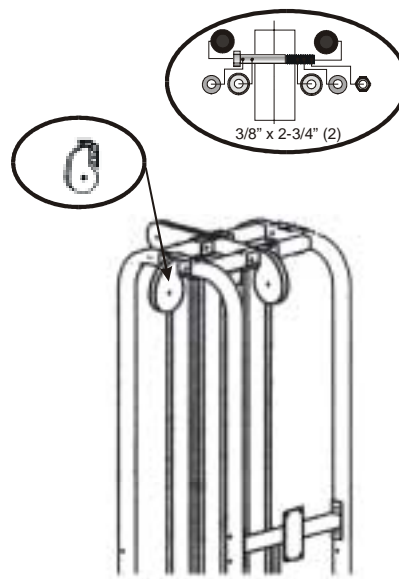
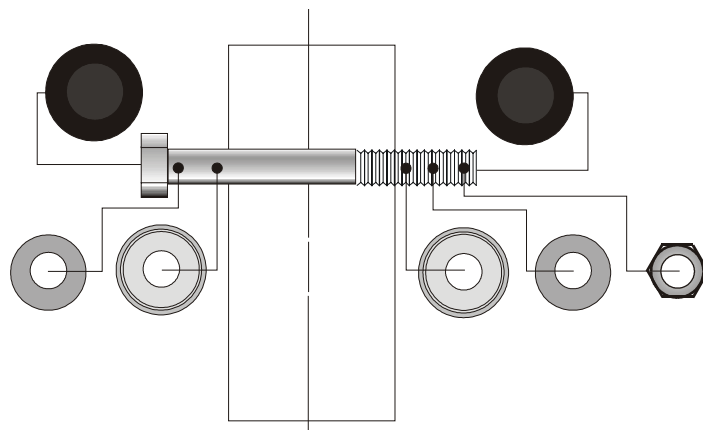

Figure 4. Bolt on the teardrop pulleys.
Figure 5. Configuration for 2-3/4" and 3" bolts.
2. **Bolt on the teardrop pulleys** above the benches (see Figure 4) on the 3 stack cell using two $3/8"$ x $2-3/4"$ hex head bolts (used to bolt the cross beam to the cross members and the adjustable pulley tops to the top beams). Include the $3/8"$ flat washer, end cap washers, end caps and $3/8"$ Nyloc (locknut). Use the bolt configuration shown in Figure 5. You may wish to use a pinch bar to align the bolt holes.
Hardware Figure 4 shows the types of cables that are included with the SM42.
Hardware Figure 4. Cables.
Hardware Figure 5. Top assemblies.